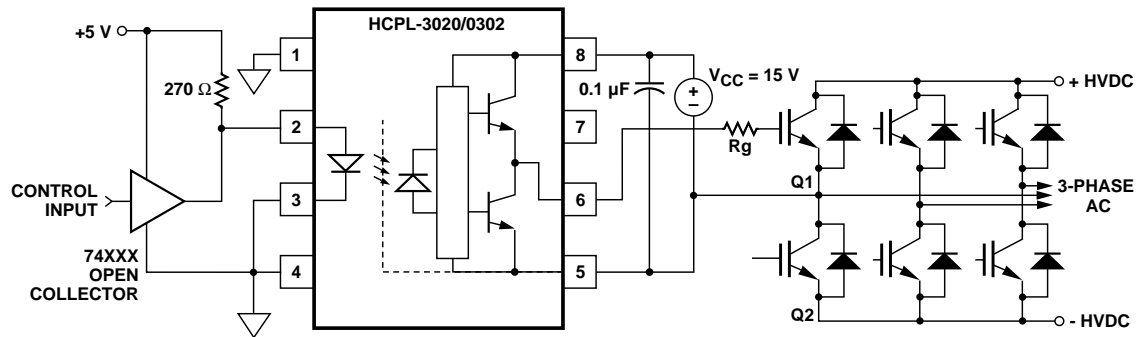
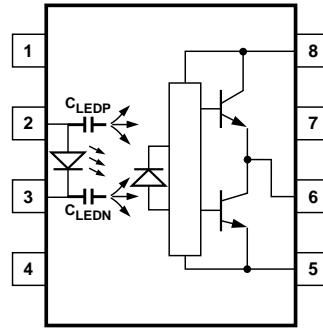
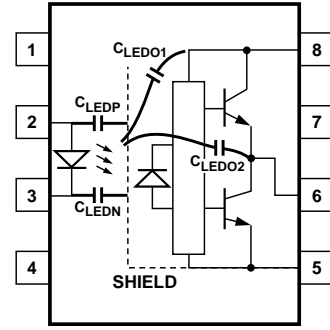

Figure 17. Recommended LED drive and application circuit for HCPL-3020 and HCPL-0302.
Figure 19. Optocoupler input to output capacitance model for unshielded optocouplers.
Figure 20. Optocoupler Input to output capacitance model for shielded optocouplers.
PC board directly above the IGBT) can eliminate the need for negative IGBT gate drive in many applications as shown in Figure 17. Care should be taken with such a PC board design to avoid routing the IGBT collector or emitter traces close to the HCPL-3020 or HCPL-0302 input as this can result in unwanted coupling of transient signals into the input
**Step 1:** Calculate  $R_g$  minimum from the  $I_{OL}$  peak specification. The IGBT and  $R_g$  in Figure 17 can be analyzed as a simple RC circuit with a voltage supplied by the HCPL-3020.
where  $K_{ICC} \cdot Q_g \cdot f$  is the increase in  $I_{CC}$  due to switching and  $K_{ICC}$  is a constant of 0.001 mA/(nC\*kHz). For the circuit in Figure 17 with  $I_F$  (worst case) = 10 mA,  $R_g = 57.5 \, \Omega$ , Max Duty Cycle = 80%,  $Q_g = 100$  nC,  $f = 20$  kHz and  $T_{AMAX} = 85^\circ\text{C}$ :
Without a detector shield, the dominant cause of optocoupler CMR failure is capacitive coupling from the input side of the optocoupler, through the package, to the detector IC as shown in Figure 19. The HCPL-3020 and HCPL-0302 improve CMR performance by using a detector IC with an optically transparent Faraday shield, which diverts the capacitively coupled current away from the sensitive IC circuitry. However, this shield does not eliminate the capacitive coupling between the LED and optocoupler pins 5-8 as shown in Figure 20. This capacitive coupling causes perturbations in the LED current during common mode transients and becomes the major source of CMR failures for a shielded optocoupler. The main design objective of a high CMR LED drive circuit becomes keeping the LED in the proper state (on or off) during common mode transients. For example, the recommended application circuit (Figure 17), can achieve 10 kV/ $\mu$ s CMR while minimizing component complexity.
supplied by the LED, and it is not recommended for applications requiring ultra high  $CMR_1$  performance. The alternative drive circuit, which likes the recommended application circuit (Figure 17), does achieve ultra high CMR performance by shunting the LED in the off state.